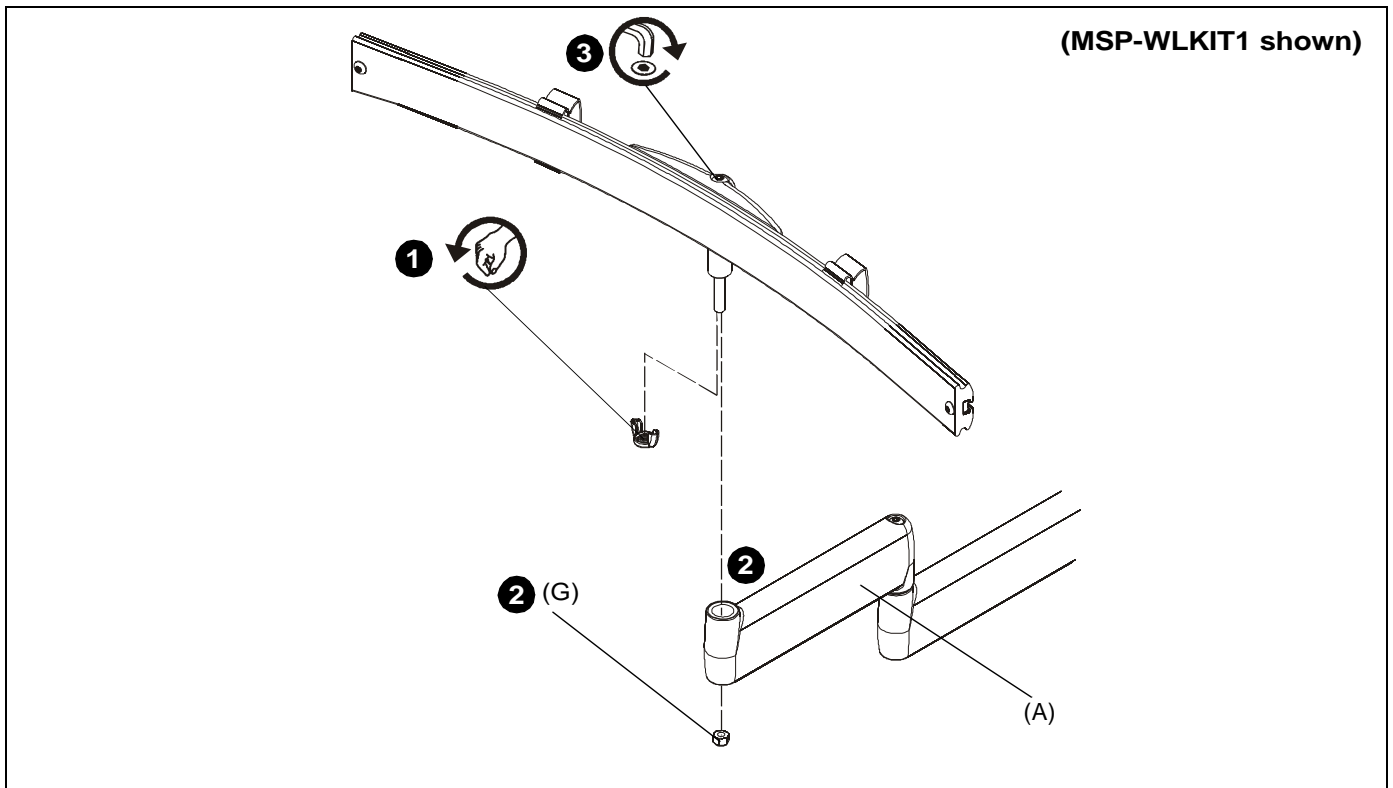

Figure 6
1. Remove and recycle wing nut from array assembly's (D) mounting bolt. (See Figure 6)
2. Use 5/16-18" lock nut (G) to secure array assembly (D) to dual arm assembly (A). (See Figure 6)
3. Tighten screw on array as required using 3/16" hex key. (See Figure 6)